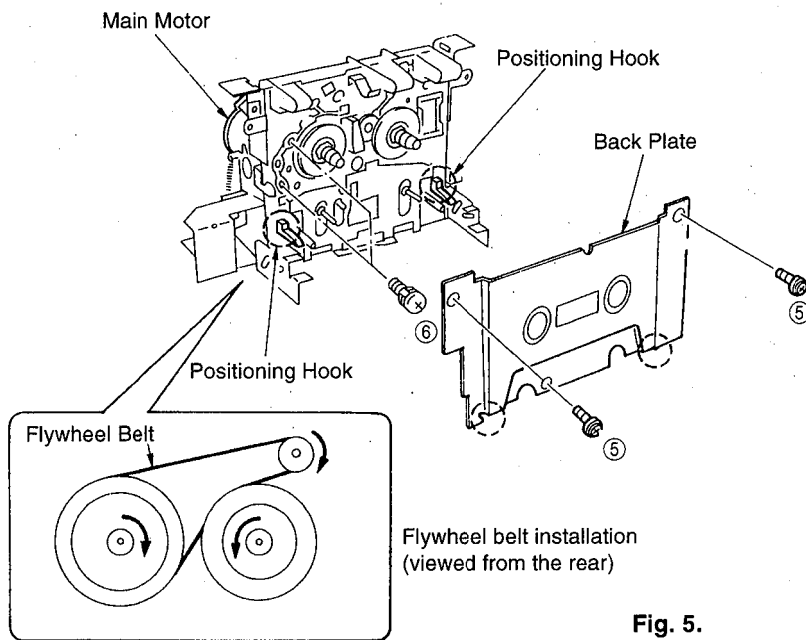

Fig. 5.
*When reinstalling it, be sure to fit its lower ends to the positioning hooks in Fig. 5.
- d. Remove 2 screws (⑥) and then remove the Main Motor in Fig. 5.